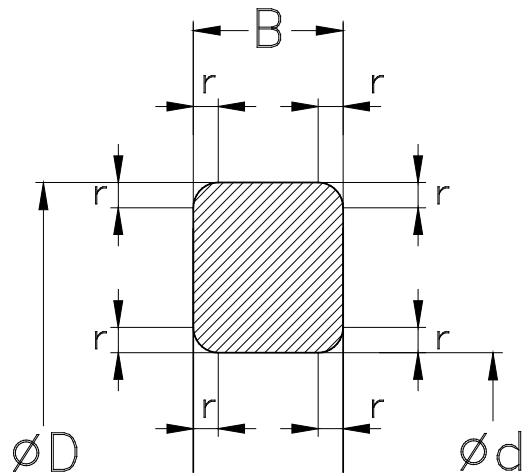

Fig. 4.5
The **standard plans** defined in the above provide boundary dimensions for the different bearing types. The standardised dimensions like **bore diameter (d)**, **outer diameter (D)**, **bearing width (B)** or **height (H, T)** and **minimum chamfer dimensions (r)** (see also fig. 4.5).